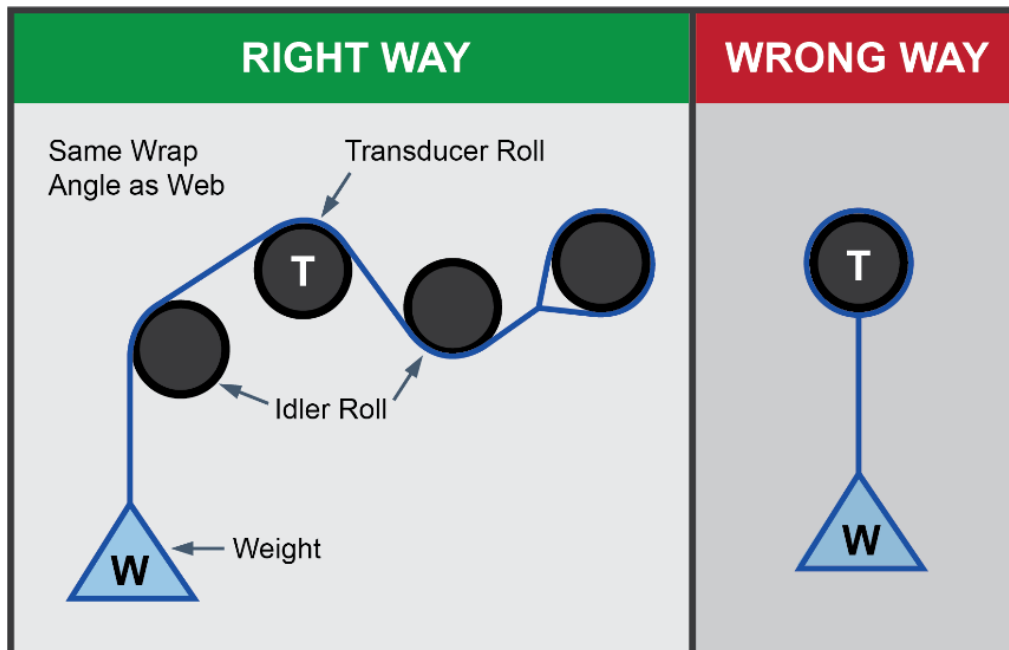

Figure 7 – WEB PATH
1. See Figure 7. Pass the rope over the Transducer wheel / pulley in the same path as the web follows. Tie the end in the machine at least one idler roll beyond the Transducer. Pass the other end by at least one idler roll before the Transducer. Be sure the rope does not pass over any driven rolls, braked rolls, or dead bars (this will cause in-accurate calibration). Attach the weight to the free end of the rope and let it hang without touching anything.